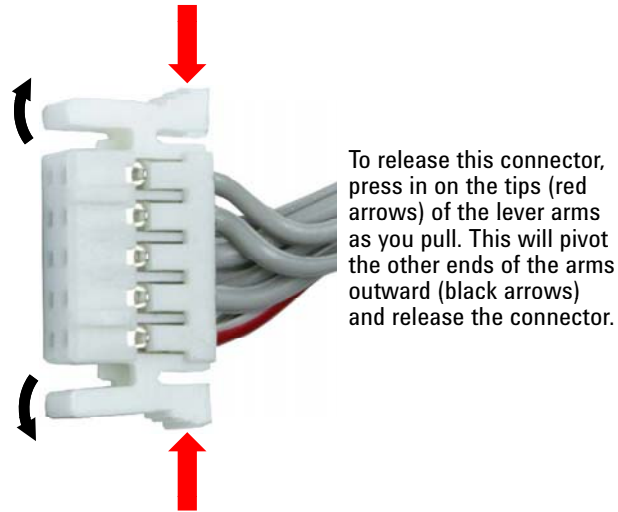

Figure 84 Remove the bottom-most white connector
- 4 Next, remove the white connector shown in Figure 84. This is accomplished by pressing in with your fingers at the points shown below as you pull on the connector.
- b Next, reconnect the white connector shown in Figure 84. Push firmly to engage. Note that this connector will not make an audible click.